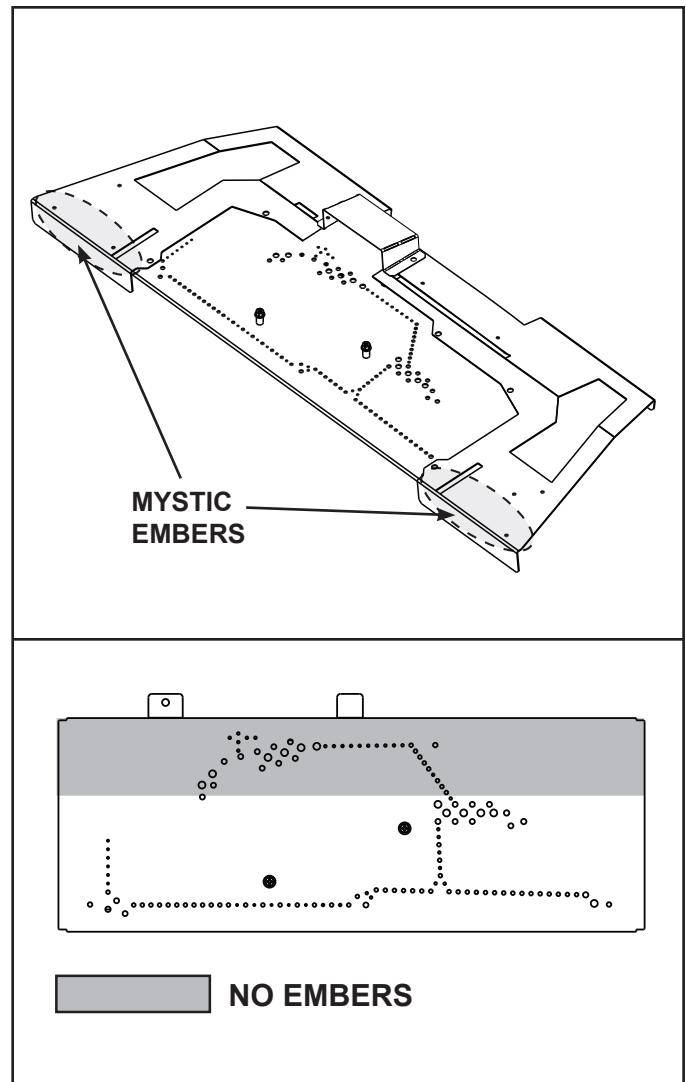

Figure 9.3 Placement of Embers
- Embers **CANNOT** be placed directly over burner ports that are indicated in Figure 9.3 or in pilot area as indicated in Figure 9.3.
- Embers may be placed on the ports in areas indicated in Figure 9.3. These embers must be placed loosely over the port holes, not pressed down on or into the holes. Create a single layer, no more than 1/4 inch thick.